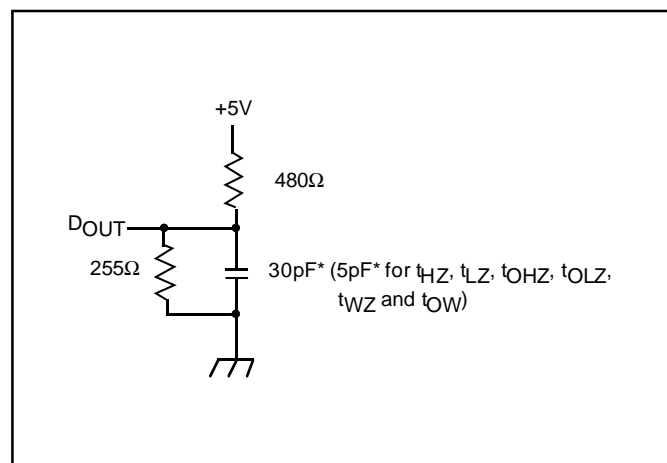

Figure 1. Output Load
9. Transition is measured  $\pm 200\text{mV}$  from steady state voltage prior to change, with loading as specified in Figure 1.
| Output Load                   | See Figures 1 and 2 |